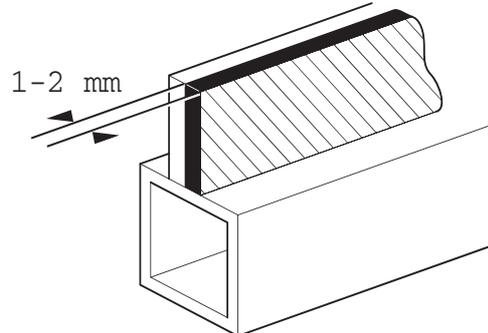

Fig 5.
- 5** If necessary, trim off the remaining old sealant to leave approximately 1 to 2 mm on the upright face of the cab frame aperture. → Fig 5. \(□ B-3\)